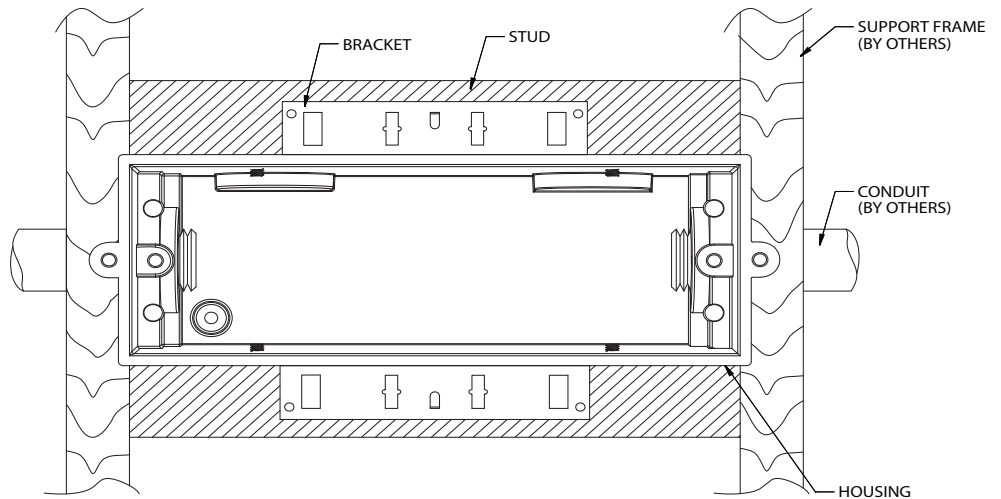

FIG. 5
5. If desired brackets can be mounted directly to framing members as shown in FIG 5.